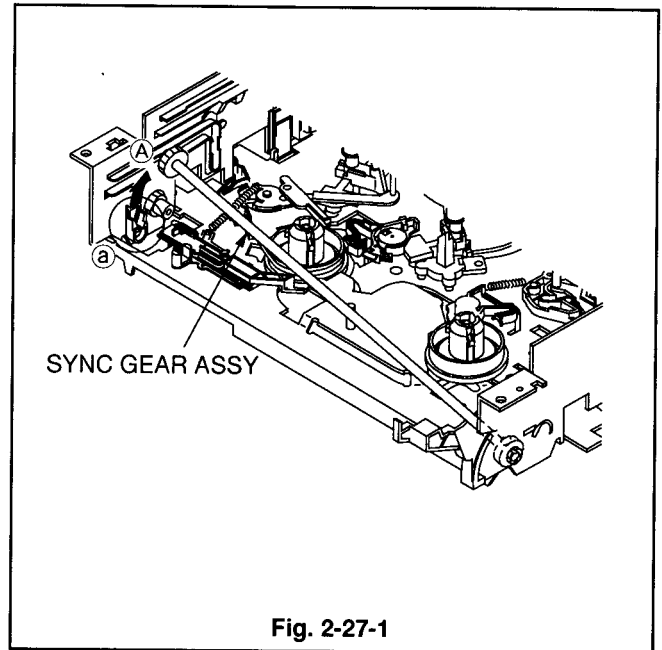

Fig. 2-27-1
- 1 Unfasten the catch (Ⓐ) of the MAIN PLATE ASSY as shown in Fig. 2-27-1. Move the SYNC GEAR ASSY in the direction shown by the arrow (Ⓐ) to remove it.
- 2 Move the SYNC GEAR ASSY shown in Fig. 2-27-1 in the opposite direction against the arrow (Ⓐ) to install it.